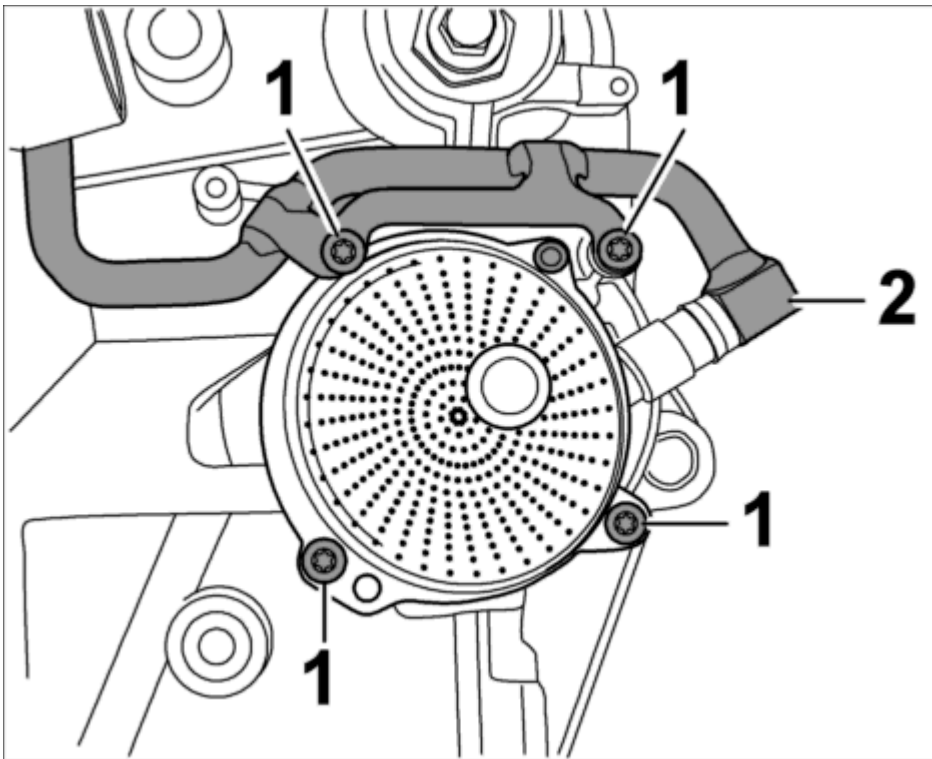

Fig. 17: Tandem pump side 4 - 6
7. Remove tandem pump for cylinders 4 - 6. Unscrew four Torx screws M6 (micro-self-locking) -1- . Pull off the vacuum line on pump -2- . Remove pump and replace O-rings and micro-self-locking screws. See **Fig. 17**.